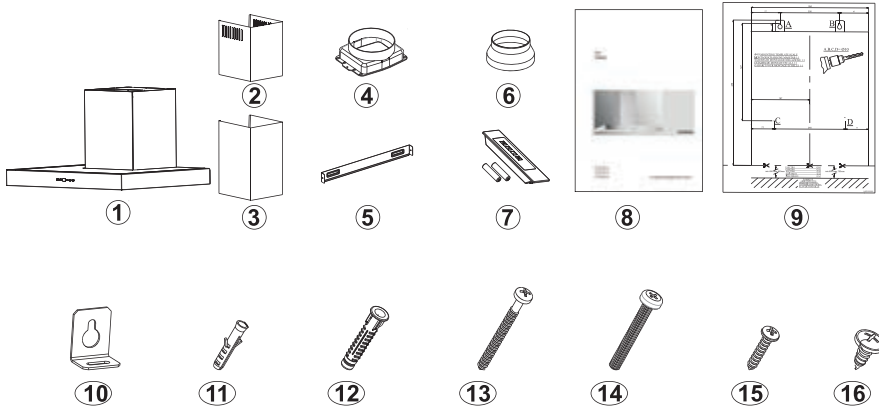

Fig. 9: PACKAGE CONTENT
- Install the hood using the installation scheme.(Fig. 9/9)